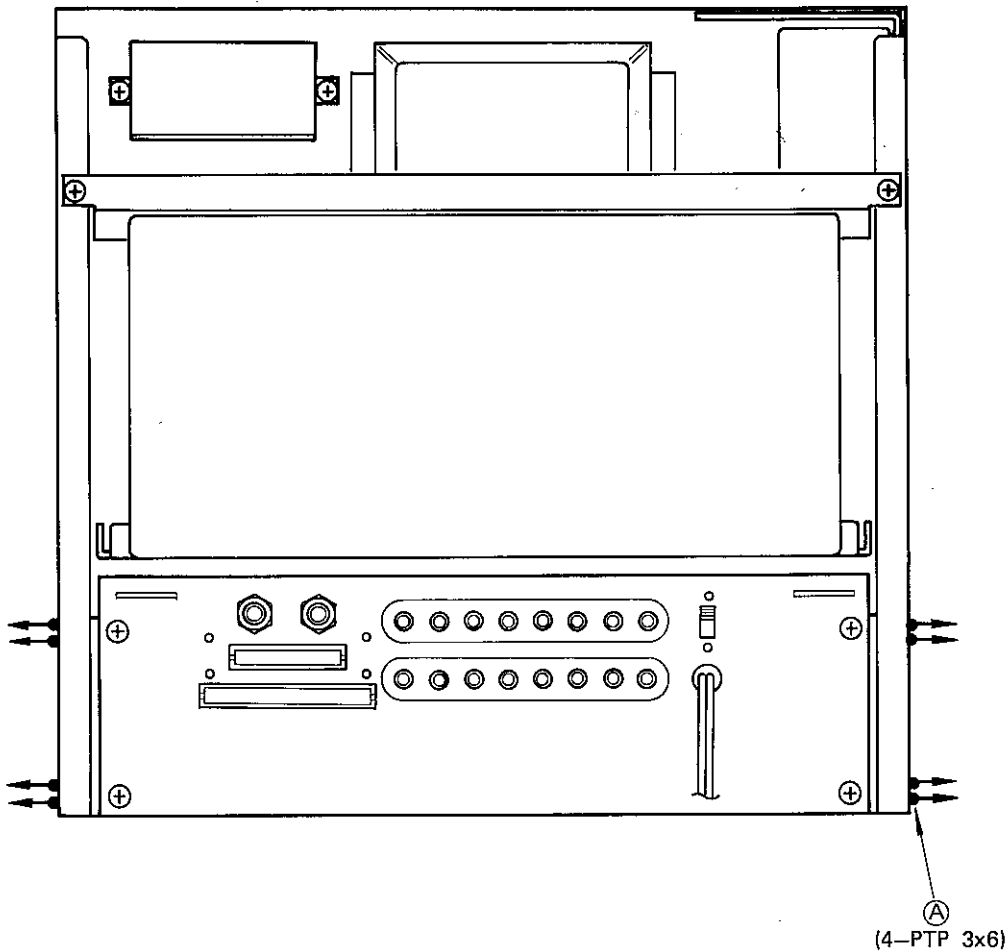
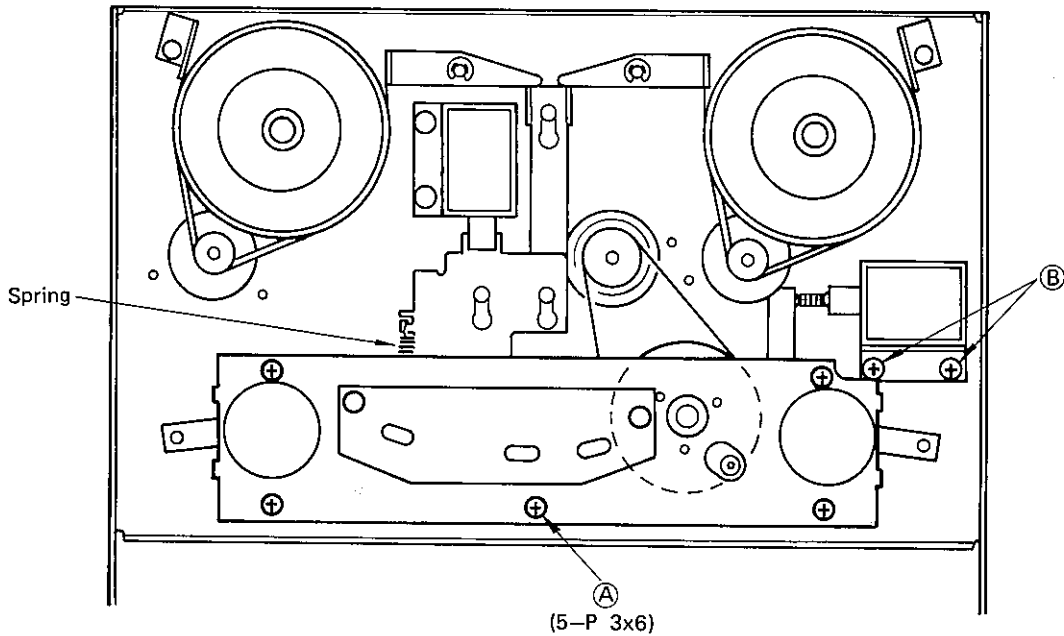

Fig. 6-4
Fig. 6-5
5) Amplifier assembly (Fig. 6-4)
- * Upon loosening a total of eight screws (A) (four each on both sides) on the side chassis of the amplifier assembly, it can be pulled out from the housing.
6) Tape transport mechanism (Fig. 6-5)
- * Remove five screws (A) and loosen the two screws (B), securing the solenoid.
- * With the top panel removed, as in Fig. 6-5, hold the brake in its released state and remove the belt through the gap between the brake drum and brake band, taking care not to bend the brake band.